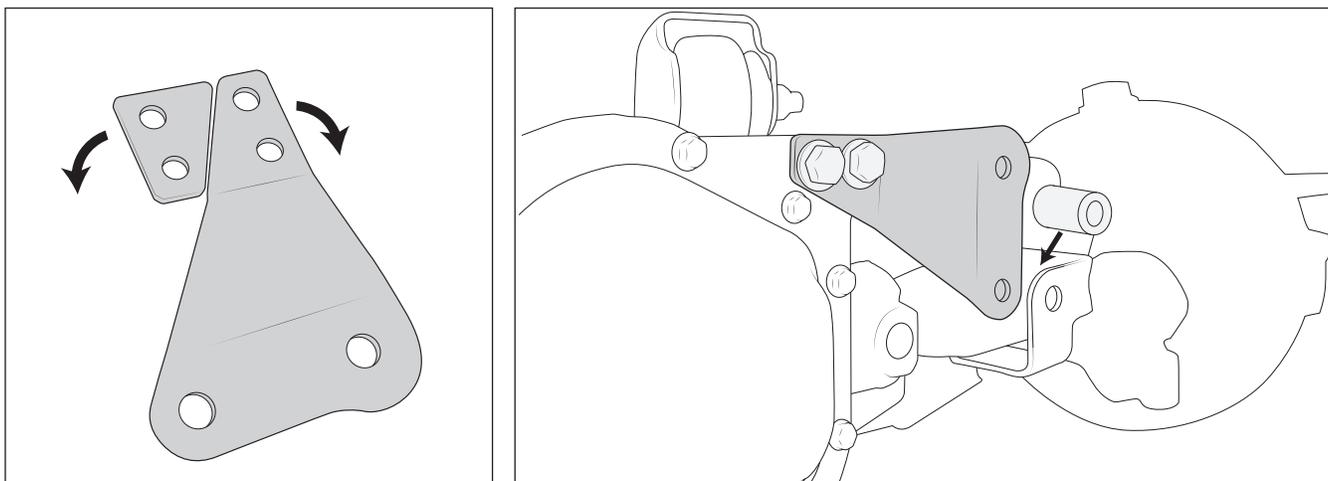

Figure 21
15. Attach the rear part of the track bar bracket to the differential cover bracket as shown. Leave loose at this time. Install spacer as shown (Fig. 21).